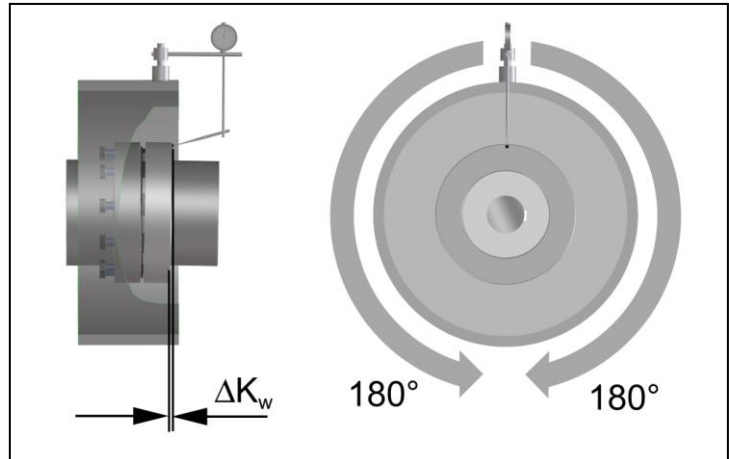

Fig. 6
- Measure on the face of the external diameter a complete rotation (360°). Determine in this case the greatest deviation ΔK_{w1} as well as the smallest deviation ΔK_{w2} (Figure 6).